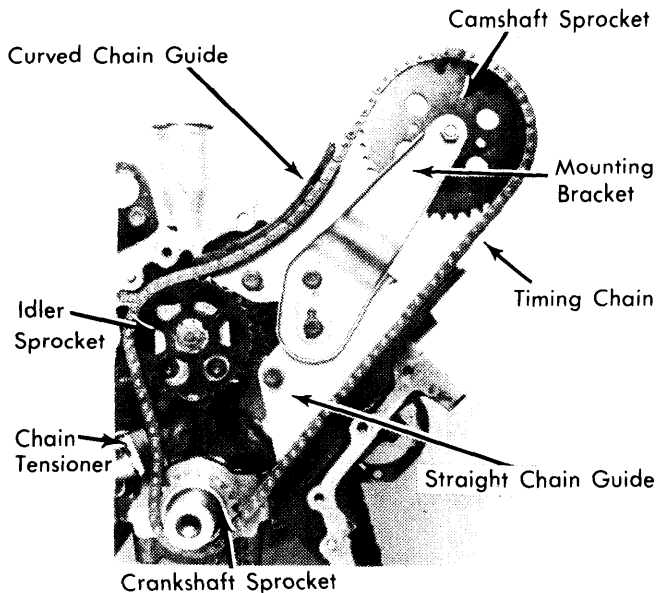

Fig. 4 Front View of Timing Chain Installed and Tightened
2) Mount pinion sprocket on crankshaft. Align "O" degree mark on flywheel with mark on cylinder block (Fig. 4).
7) Place timing chain over crankshaft and idler sprockets so chain will be in a straight line between camshaft and crankshaft as shown in Fig. 4. Do not change any of the sprocket settings while installing chain.